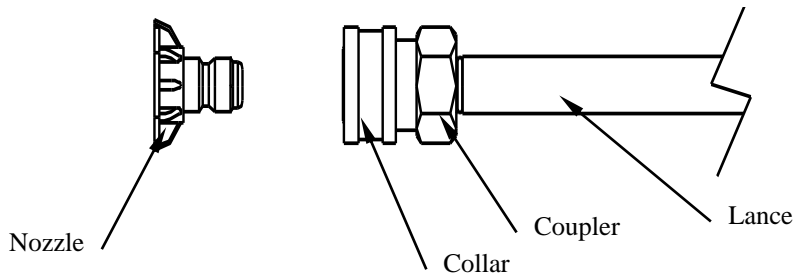

Figure 9a
2. To install the nozzle, pull the collar back and twist the nozzle firmly into the coupler on the end of the wand (Figure 9a). First few times connecting might require more force due to O’rings needing to break in.